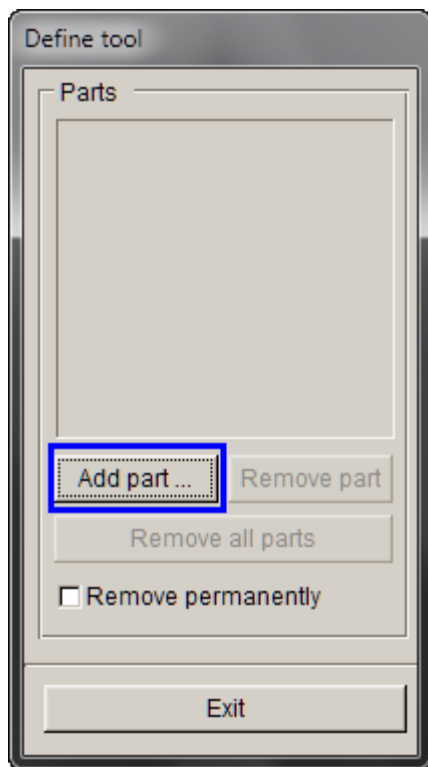

Figure 56
4. Click **Add Part...** . (Figure 56).